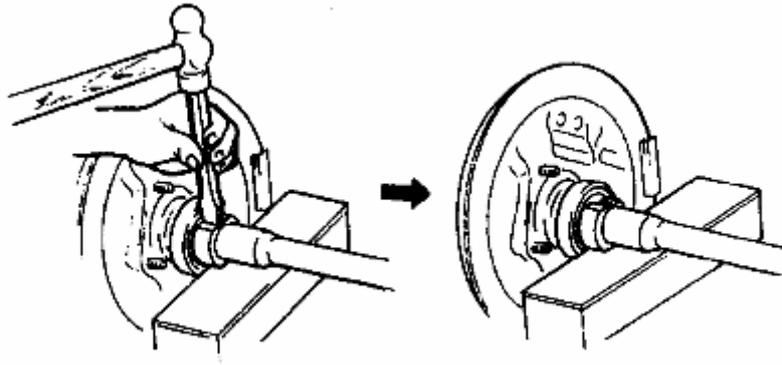

FIG 13-12
(3) Strike thin portion in spacer off by using a chisel. When taking down bearing spacer, pay attention to not to damage half-axle. Take down bearing spacer. (FIG.13-12)